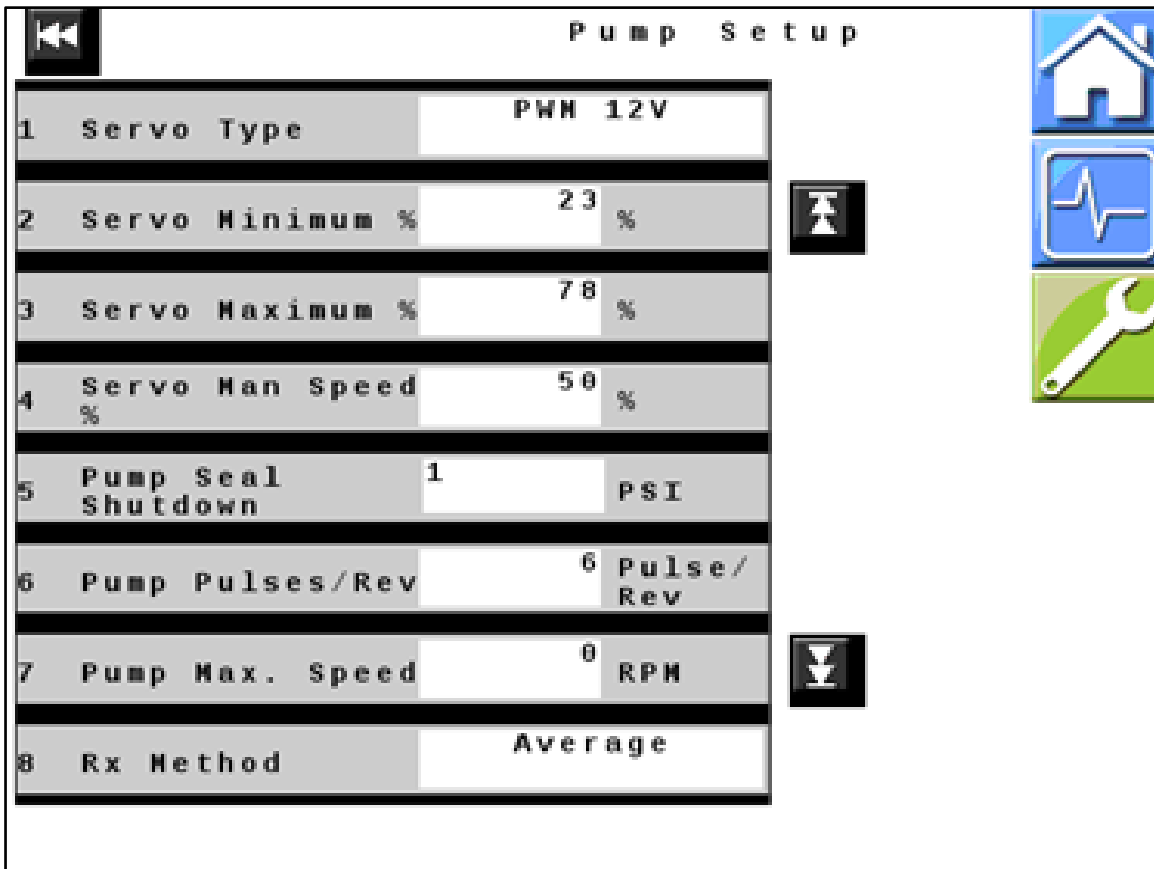

Figure 11 — Pump Setup Page 1
18. *Figure 11:* Verify that all values displayed on your unit match those shown here. Change values if necessary.